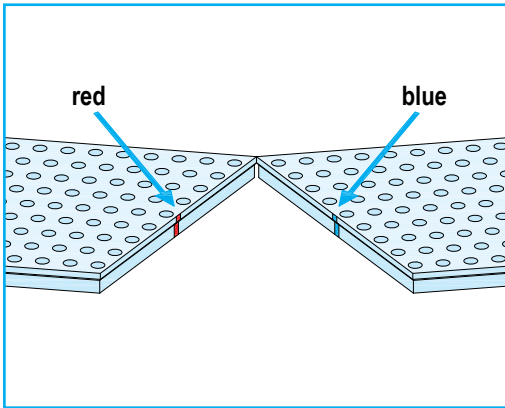

FIGURE 8 UFF Edges Alignment
- Place red and blue dots adjacent to each other for UFF edges. [Figure 8]